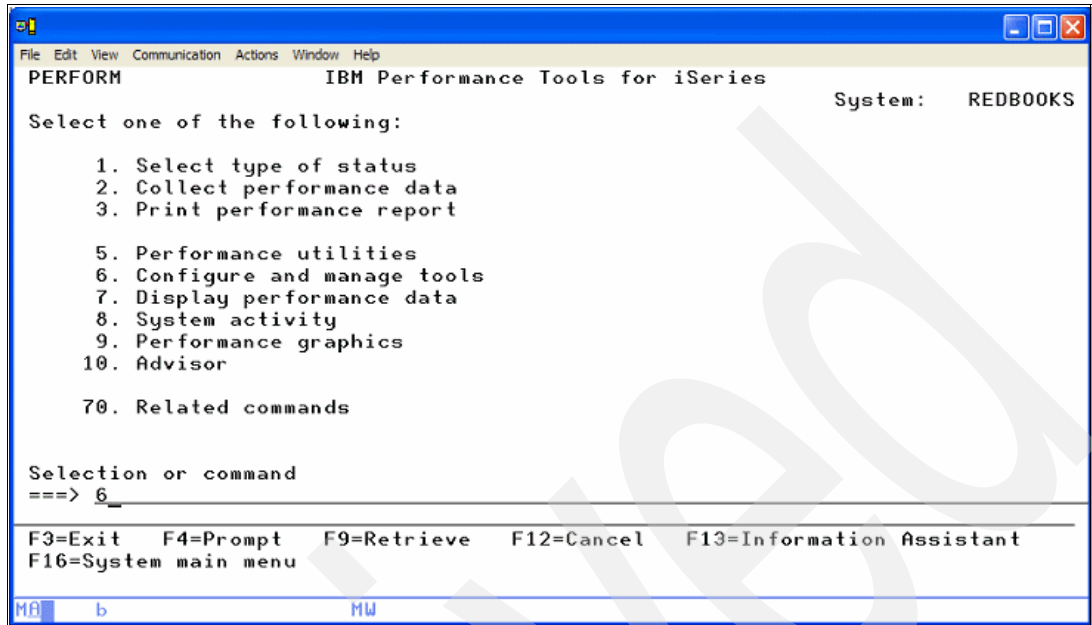

Figure A-15 Performance Tools main menu
5. In the IBM Performance Tools for iSeries panel (Figure A-15), select **6. Configure and manage tools**. The option to create performance data is contained in this option.